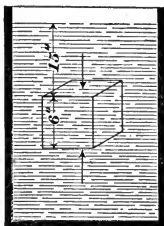

FIG. 11.
26. In Fig. 11 is shown a 6-inch cube entirely submerged in water. The lateral pressures are equal and in opposite directions. The upward pressure acting on the lower surface of the cube is  $6 \times 6 \times 21 \times .03617$ ; the downward pressure acting on the top of the cube is  $6 \times 6 \times 15 \times .03617$ ; and the difference is  $6 \times 6 \times 6 \times .03617$ , which equals the volume of the cube in cubic inches times the weight of 1 cubic inch of water. That is, the upward pressure exceeds the downward pressure by the weight of a volume of water equal to the volume of the body.